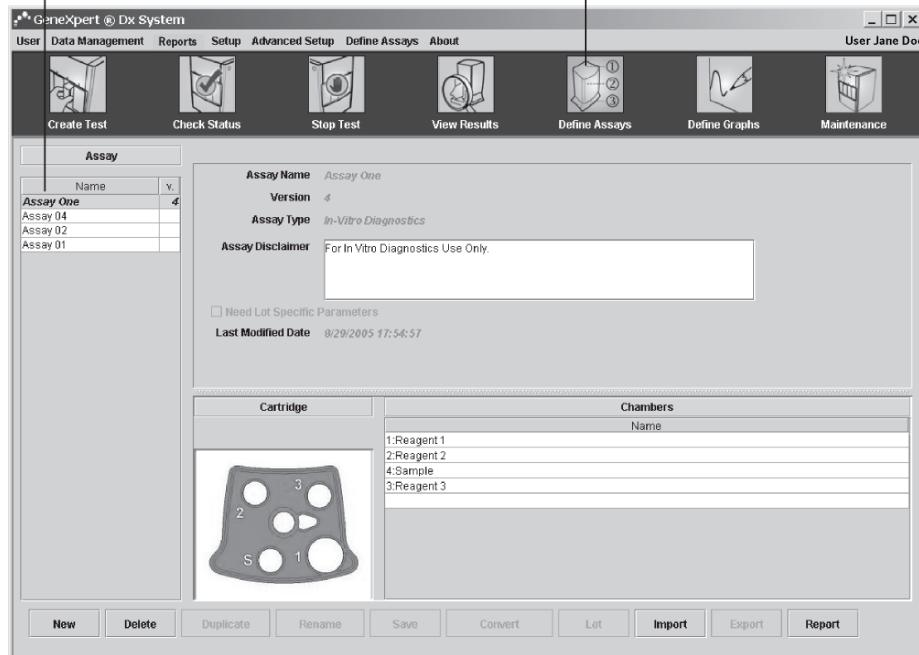

Figure 5-13. GeneXpert Dx System – Define Assays window
1. In the GeneXpert Dx System window, click **Define Assays**. The Define Assays window appears (Figure 5-13).